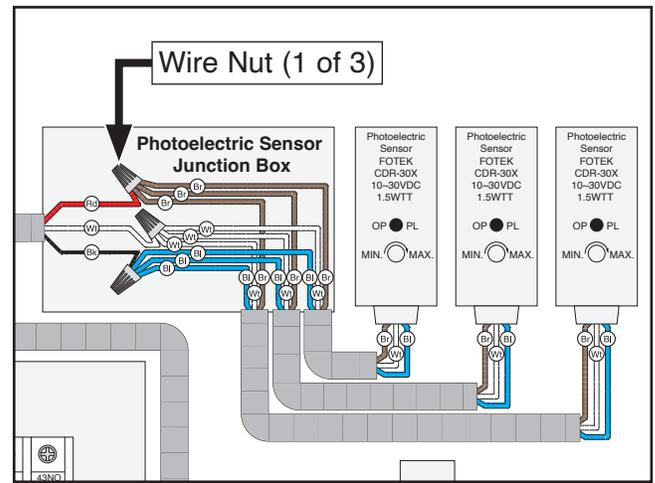

Figure 57. Photoelectric sensor wiring.
50. Connect wires from photoelectric sensor cords to control box cord wires, as illustrated in **Figure 57**.
- Connect (3) brown wires from sensors to (1) red wire with (1) wire nut.
- Connect (3) white wires from sensors to (1) white wire with (1) wire nut.
- Connect (3) blue wires from sensors to (1) black wire with (1) wire nut.